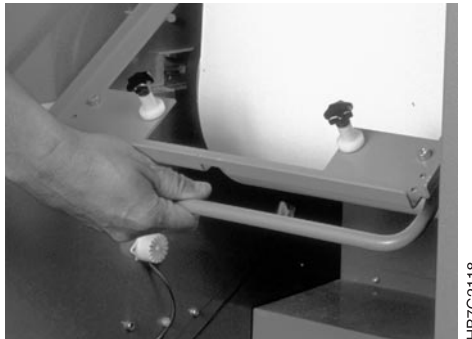

Figure 243. Lifting the Paper Supply Brake Lever
6. Activate the brake by lifting the brake lever, as shown in Figure 243, to release the latch.